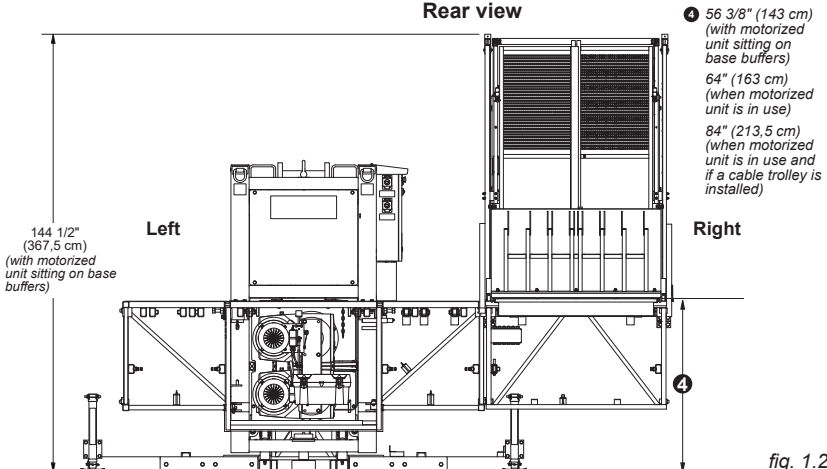

fig. 1.29
- 6- The use of an optional cable trolley kit is strongly recommended if the mast is higher than 150' (45,7 m). However, it must be noted that when the optional cable trolley is installed, the transport platform can no longer lower all the way down to the base buffers, as clearance is required under the unit for the cable trolley installation as shown in fig. 1.29, p. 15.
If an optional **cable trolley** is used, it must be noted that the transport platform **will no longer lower all the way down to the base buffers**, as clearance is required under the unit for the cable trolley installation, as shown in fig. 1.29, p. 15